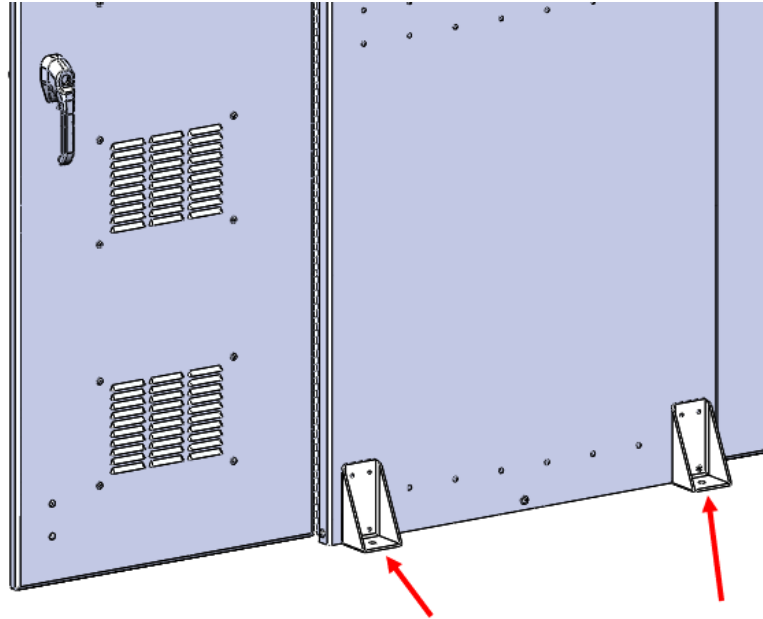

FIGURE 3: ANCHOR BOLTS (1 SIDE SHOWN)
- Use (4) ½" diameter concrete anchor bolts to mount the SPOT/BOSS-BOX enclosure (and Figure 3)